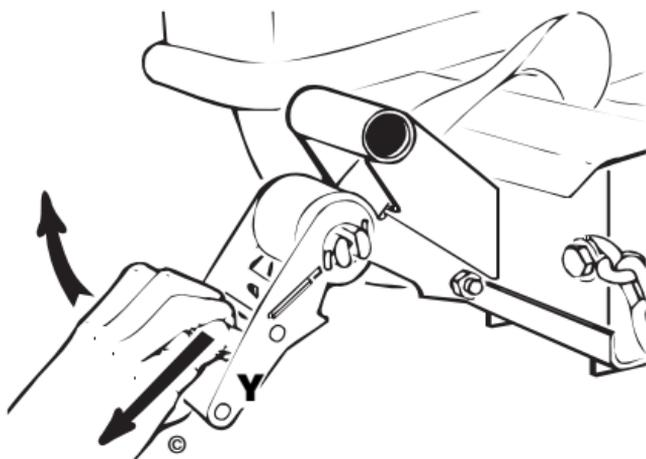

Figure 5
- Pull on the ratchet release and raise the handle as far up as you can; (Figure 5) then pull on the tire strap to unroll and remove strap from the spool. Lay the strap assembly to the outside of the ramp, or on the ramp.